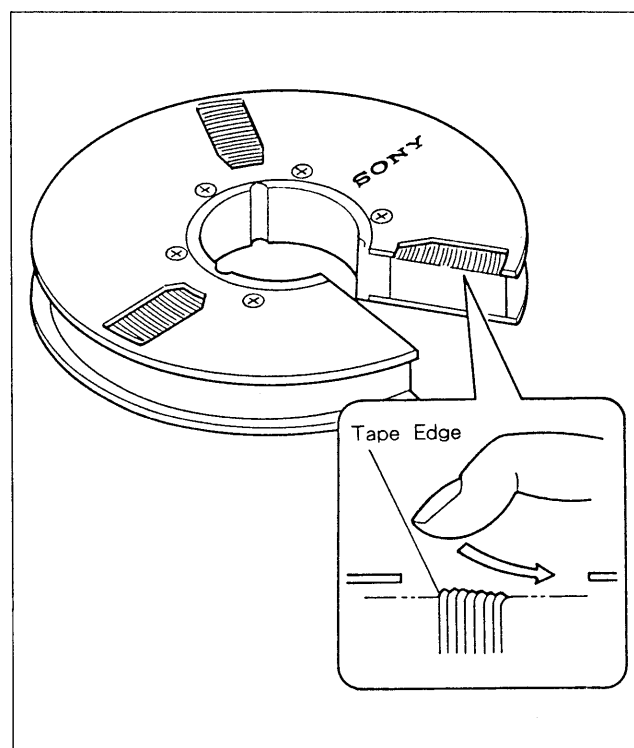

Fig. 9-14-3. Tape Edge Damage Check (2)
- ① Tape's upper edge contacting surface of the full erase head
- ② Tape's upper edge contacting portion of the capstan shaft
- (3) Check the following items after the completion of F.FWD mode. (Refer to Fig. 9-14-3.)
Check the winding condition of the tape that was wound on the S reel. (Refer to Fig. 9-14-3.)